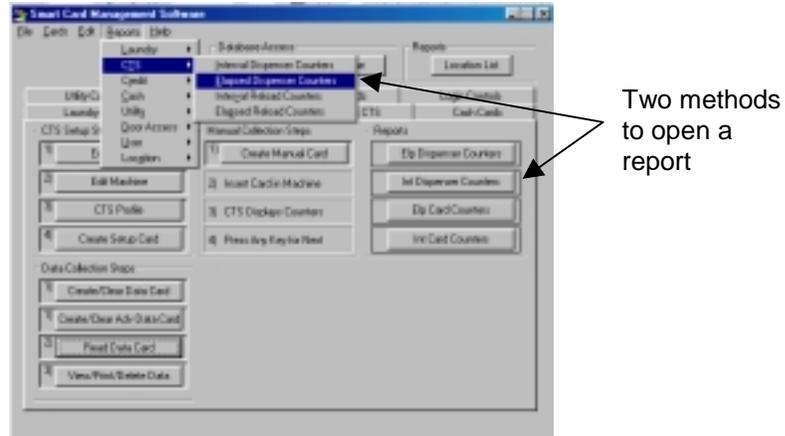

**Figure 9.18 Saving the Collection Records**
- The Read CTS Data Collection Card window will open and list all the CTS data collections on the card. Select which records to save. Select the Save Selected Records from the File drop-down menu or click the Save and Exit button to save all records (Figure 9.18).